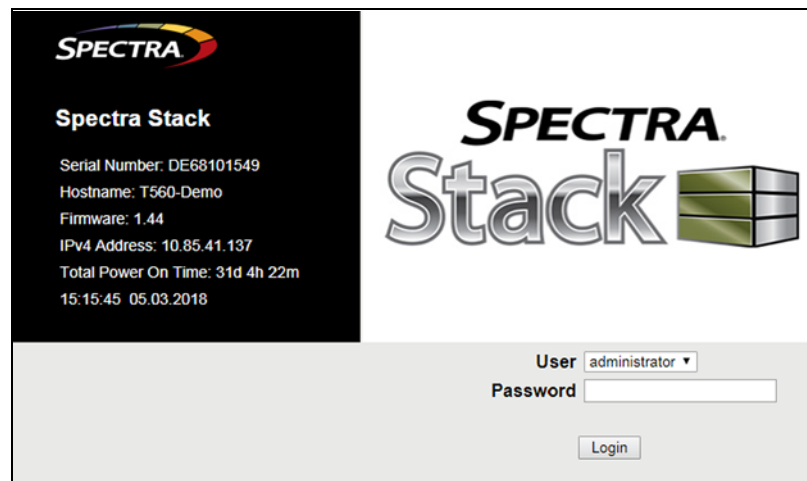

Figure 3 The Login screen.
- Click **Set and Proceed**. The library reboots and displays the login screen (see Figure 3 on page 37).